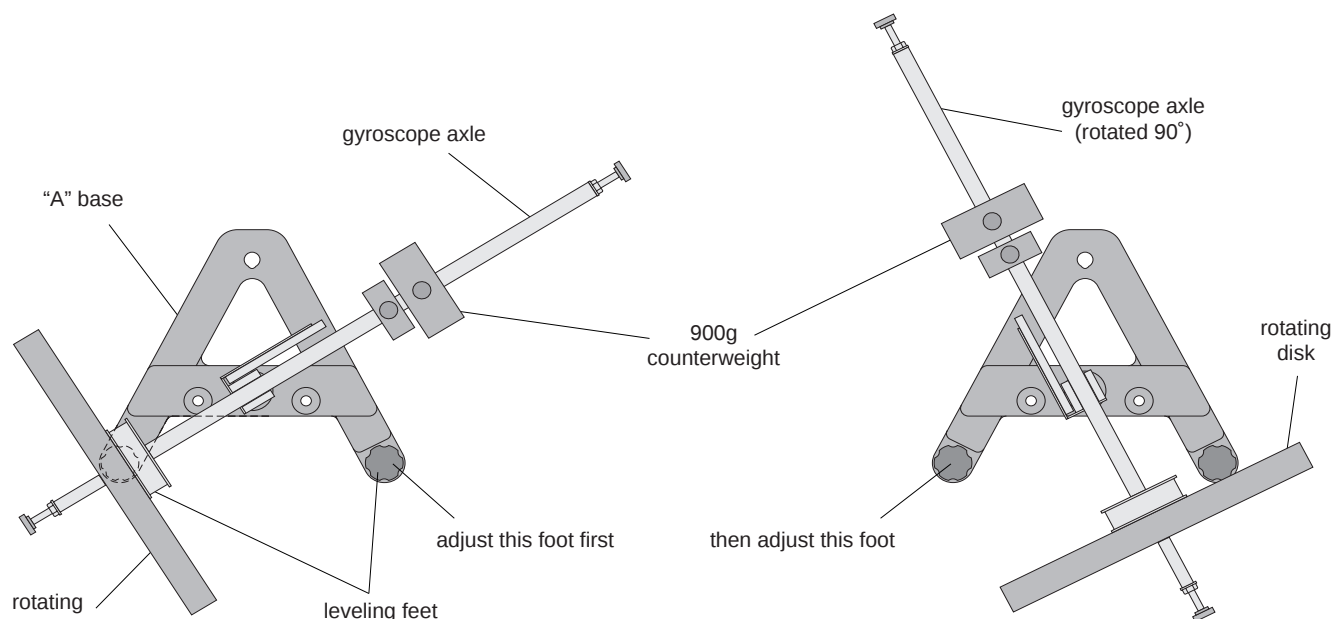

Figure 2: Leveling the Base
- ① Purposely make the apparatus unbalanced by moving the 900g counterweight towards the center.
- ② Adjust the leveling foot on one of the legs of the base until the gyroscope disk is aligned over the leveling foot on the other leg of the base. See Figure 2.
- ③ Rotate the gyroscope 90 degrees so the gyroscope axle is parallel to one side of the "A" and adjust the other leveling foot until the shaft will stay in this position. See Figure 2.
- ④ Adjust the position of the 900g counterweight until the gyroscope is balanced without the add-on mass. The 30g counterweight can be used to fine tune the balance.